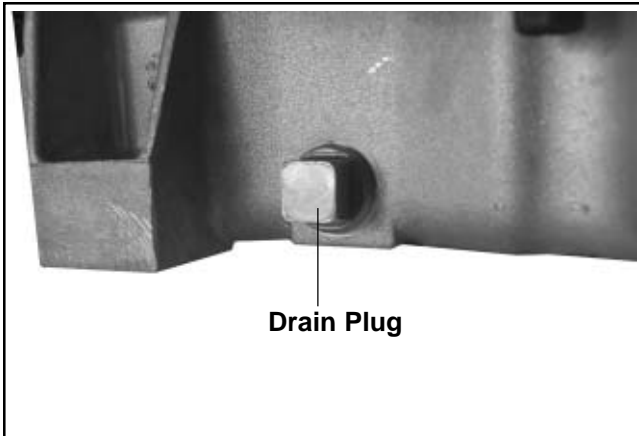

Figure 11-84. Install Oil Drain Plug(s).
4. Install the oil drain plug(s). See Figure 11-84. Torque plug(s) to **13.6 N·m (10 ft. lb.)**.